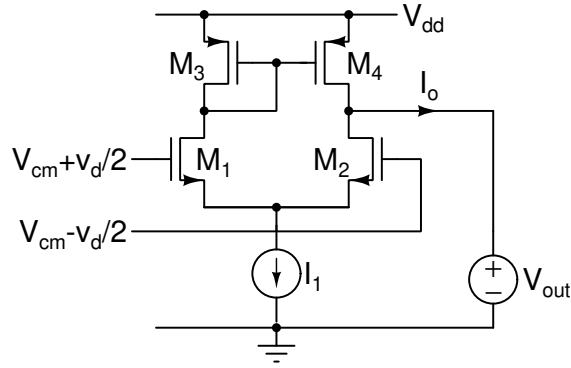

Figure 2.3: Problem 2.3.
2.3. Fig. 2.3 shows a differential pair. All transistors are in the saturation region. Neglect λ . Determine the following: